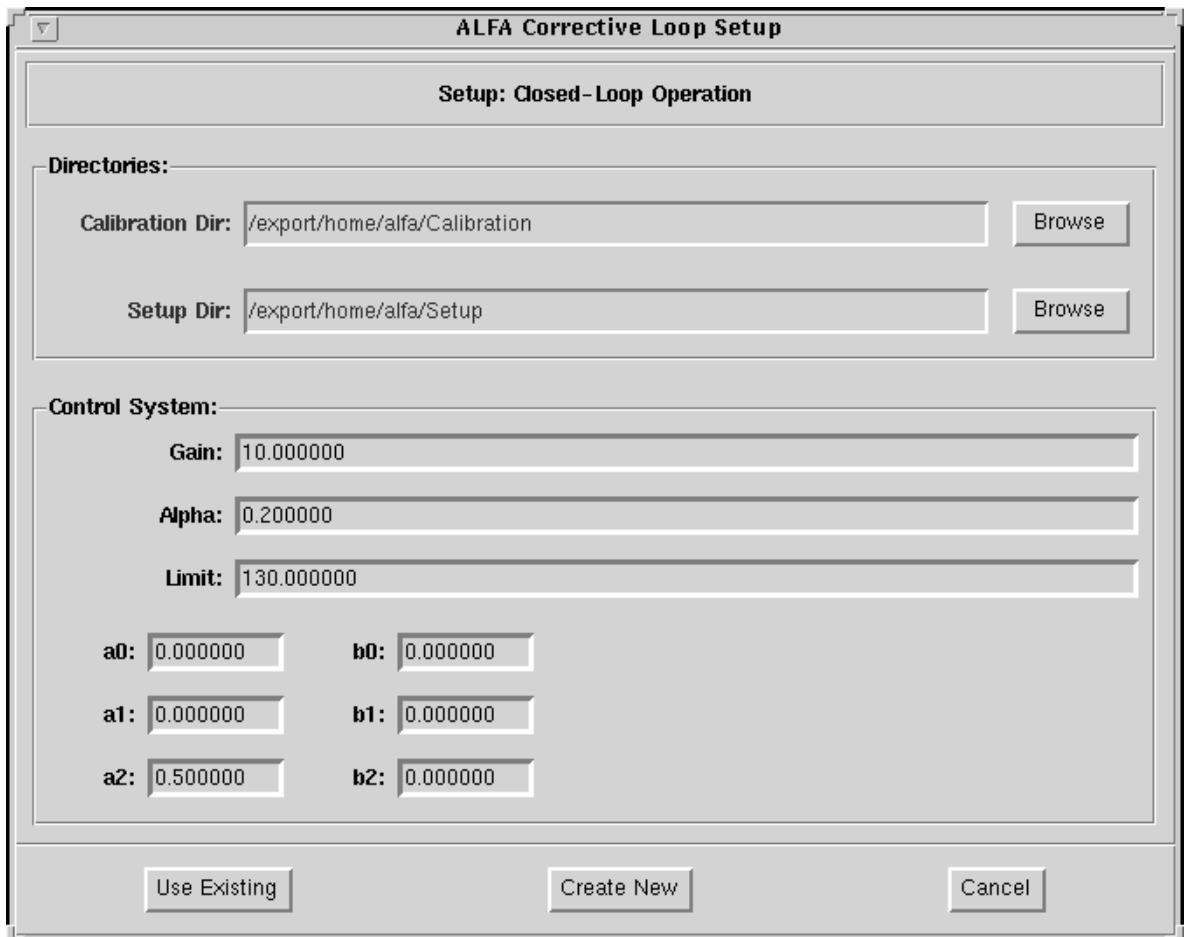
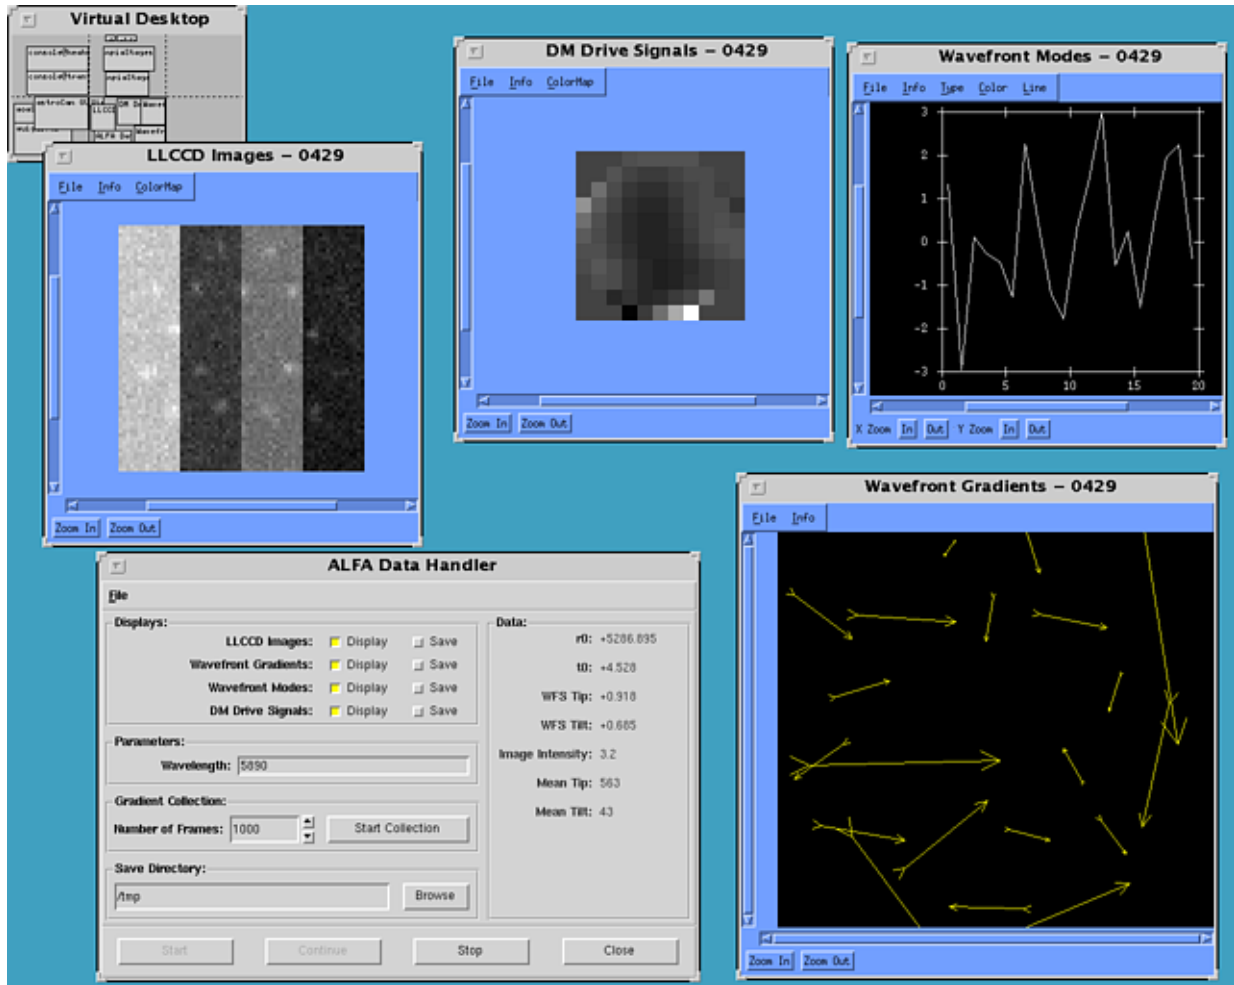

Figure 2.6: ALFA Corrective Loop Setup
Figure 2.7: ALFA Data Handler Windows
**New** in the Corrective Loop Setup GUI (figure 2.6) and click **OK** when being asked whether the Setup directory should be overwritten. If you didn't **Edit...** the modes after changing the number of modes with respect to an earlier calibration the system complains by moaning about the number of modes not fitting the other parameters. Go back to the **Calibration** GUI, click on **Edit...** and **OK**. Return to the main GUI and **Closed Loop** and **Create New** should now create a new set of files in the Setup directory that is being sent to the VME crate right away. If you want to make sure that this Setup directory is not overwritten again give it a different name in an x-term window. Using it again, one simply has to chose the proper directory name for the Setup directory in the Corrective Loop Setup GUI (that pops up after clicking on **Closed Loop** in the main GUI) and click on **Use Existing**. The parameters are now in the VME system and the loop can be started by clicking on the first radio button labelled **Start** in the middle row of buttons in the main GUI. The system than runs in open loop. The SH sensor image, the gradients, the DM signals and the Zernike modes can be displayed at a rate of about 1Hz in the **Data Handler** GUI (see figure 2.7).
The third choice in the Setup section of the ALFA Main GUI will raise the **Setup: LLCCD Image Collection** subpanel. Click **OK** to select this mode or **Cancel** the operation. In **Image Only** no calibration or setup directories are required. The ALFA Data Handler (figure 2.7) can display and save LLCCD images at a rate of about 2 Hz.